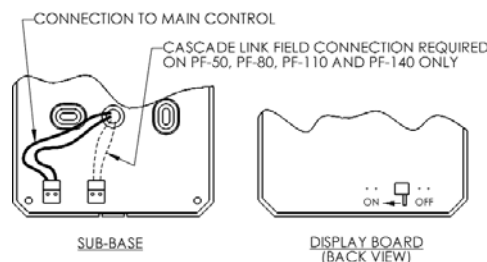

Figure 8.10: Cascade Link Connection & Switch Setting
1. To cascade PF-50 and PF-80 models, check that the display sub base has the cascade link as illustrated in Figure 8.10 Cascade Link connection & Switch Setting.
- Remove the User Interface Display from the boiler by pressing the tab on bottom edge and rotating it outward and upward as shown in Figure 8.10.
- Slide the Master Switch Lever toward the center of the printed circuit board. The Master Switch Lever is not marked with “ON” or “OFF” but the switch is in the “ON” position when it is moved to the left as viewed from the back of the display. This position is shown in Figure 8.10.
- When a call for Central Heat (CH) or Domestic Hot Water (DHW) is present, the Master boiler chooses which boiler will lead based on the Cascade Rotation Interval.
To cascade PF-50 and PF-80 models, check that the display sub-base has the cascade link as illustrated in Figure 8.10.